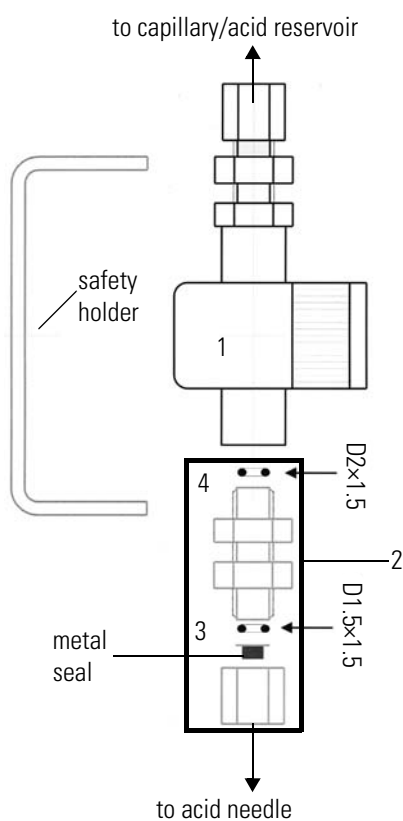

Figure 6-4. Details of pump head arrangement of seals
4. Connect the acid needle tubing to the acid pump (see Figure 6-4) and place the needle in the dual needle holder on the right side. See Figure 2-31.
3a and 3b	metric screw connections for the stainless steel pipes Usually, the inlet 3a is on the left and the outlet 3b on the right. For the layout of these metric screw connections, see Figure 6-4.
Table 6-3. Parts in Figure 6-4
Note In Figure 6-4 and Table 6-3, the O-rings (3) and (4) are not part of the bulkhead connection (2), however the metal seal is! ▲
Connect the acid reservoir (P/N 1137070) to the acid pump using the appropriate O rings and connectors as given in Figure 6-4.
Note Strictly observe the sequence of O-rings and metal seal parts given in Figure 6-4. Otherwise, the assembly might not seal to air, and then the pump will not deliver acid. ▲